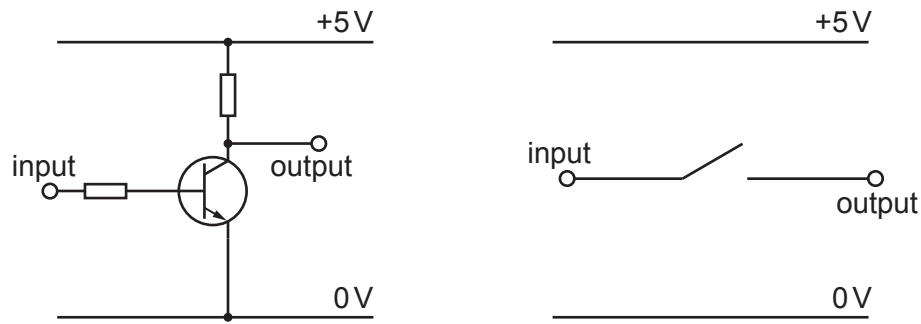

Fig. 12.4
- (d) Fig. 12.4 shows the circuit layout for a transistor switch and a single pole single throw (SPST) mechanical switch.